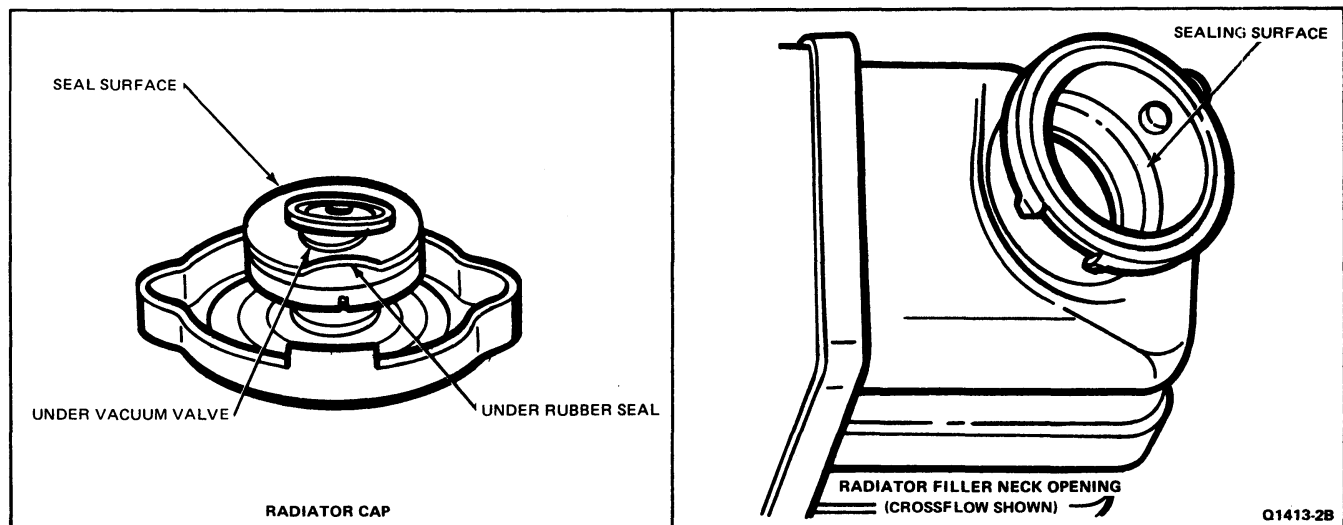

FIG. 3 Cleaning and Inspecting Radiator Cap and Filler Neck Opening
1. Inspect the areas under the vacuum valve and rubber seal for rust or dirt particles (Fig. 3).